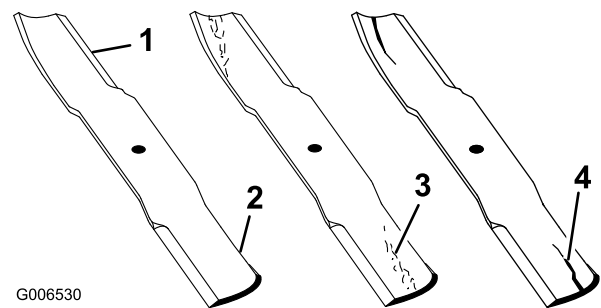

Figure 74
1. Inspect the cutting edges (Figure 74). If the edges are not sharp or have nicks, remove and sharpen the blades. Refer to Sharpening the Blades.
2. Inspect the blades, especially the curved area (Figure 74). If you notice any damage, wear, or a slot forming in this area (Figure 74), immediately install a new blade.